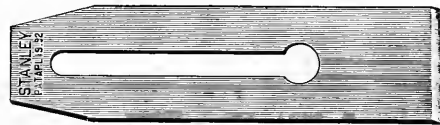

Fig. 107
A plane is, in principle, a chisel stuck through a block which serves to control the cutting. The sharp-edged piece of steel which cuts the wood is called the plane-iron (Fig. 107).¹ The bottom surface of a plane is called the face or sole (Fig. 108), the wedge-shaped hole
27. The Jack-plane, as now commonly used, is to straighten and level the surface of the wood, and can be followed by the smoothing-plane. The iron is ground squarely across (Fig. 107), but with the corners